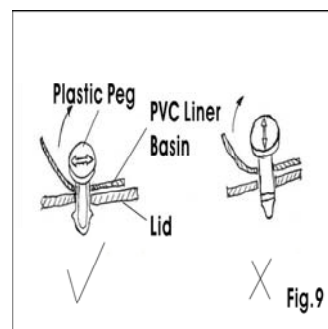

Fig.9
- Pull the plastic peg out as the arrowhead indicates on its cap when you need to remove the PVC liner Basin (Fig. 9).